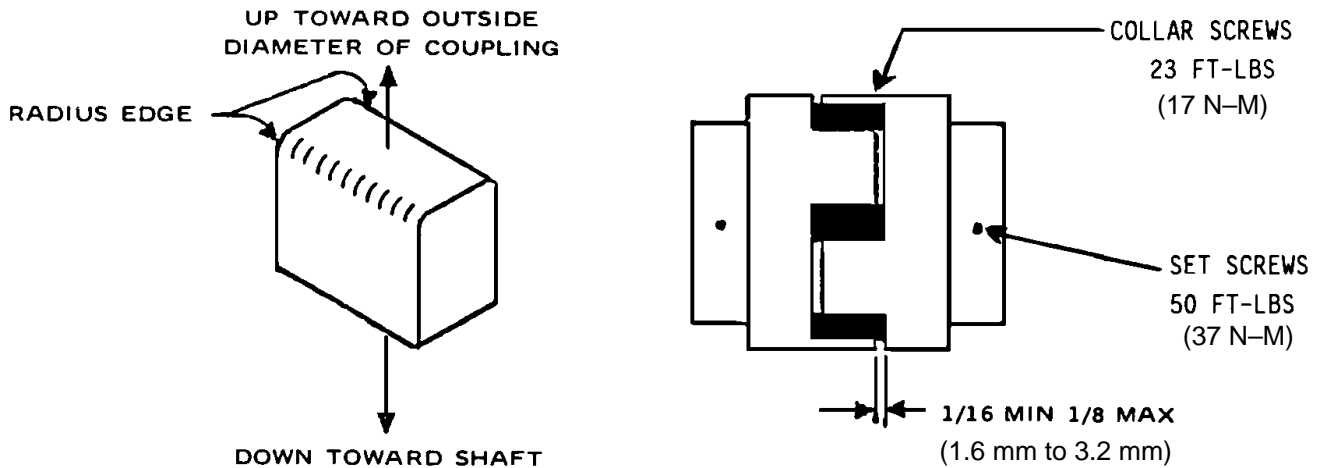

FIGURE 7-1 – INSTALLATION OF COUPLING CUSHIONS
- Working through the coupling guard opening, center the coupling over the gap between the shafts, maintaining the gap as shown in FIGURE 7-1 between the ends of the jaws on one coupling body and the flange on the opposite coupling body. Tighten set screws in each coupling body.
- Insert individual cushions as shown in FIGURE 7-1 and slide the collar over the cushions and secure with cap screws. Reinstall the cover plate.
#### Individual Cushion Design (FIGURE 7-1)